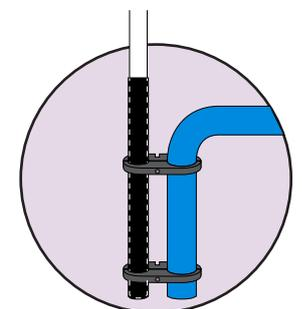

Fig 8.
9. Mount the pole into the ground socket ensuring that the pole reaches the bottom of the ground socket. (see fig 8)